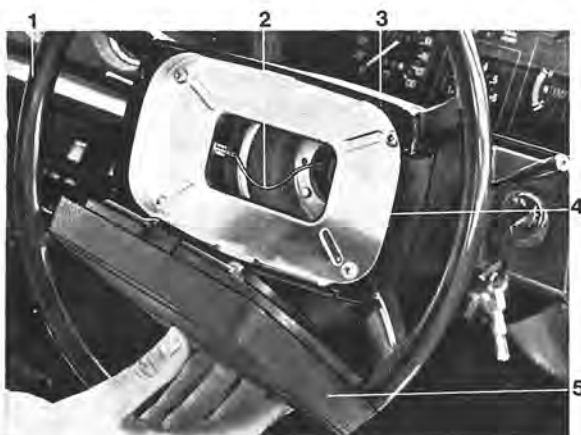

Fig. 6-45. Steering wheel components
1. Lever loose the impact pad (5, Fig. 6-45).